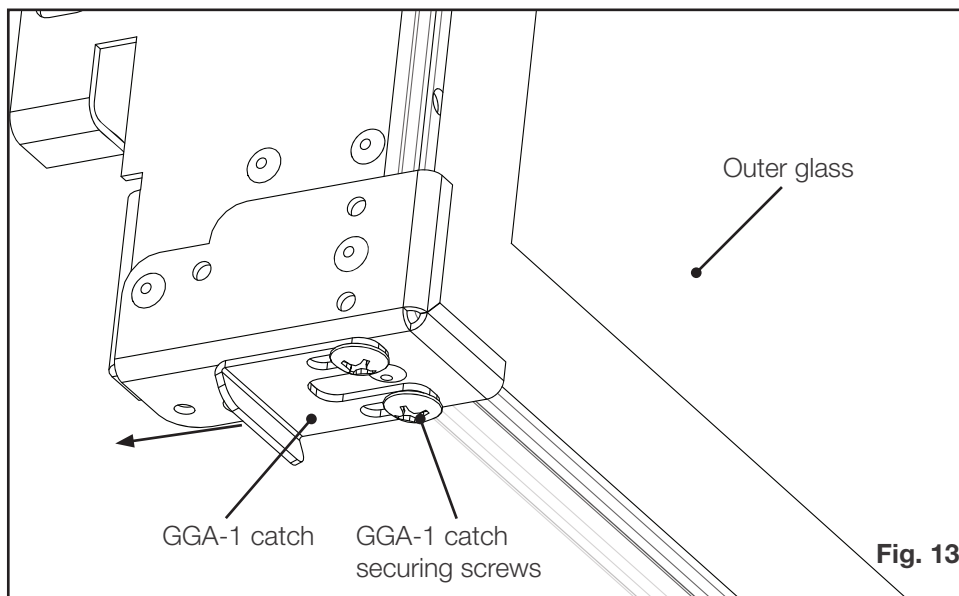

Fig. 13
10. The GGA-1 catches should be installed toward the appliance. It may be necessary to loosen the GGA-1 catch securing screws on the bottom of both sides of the GGA-1 and slide them all the way towards the back of the GGA-1. Retighten securing screws **(Fig. 13)**.